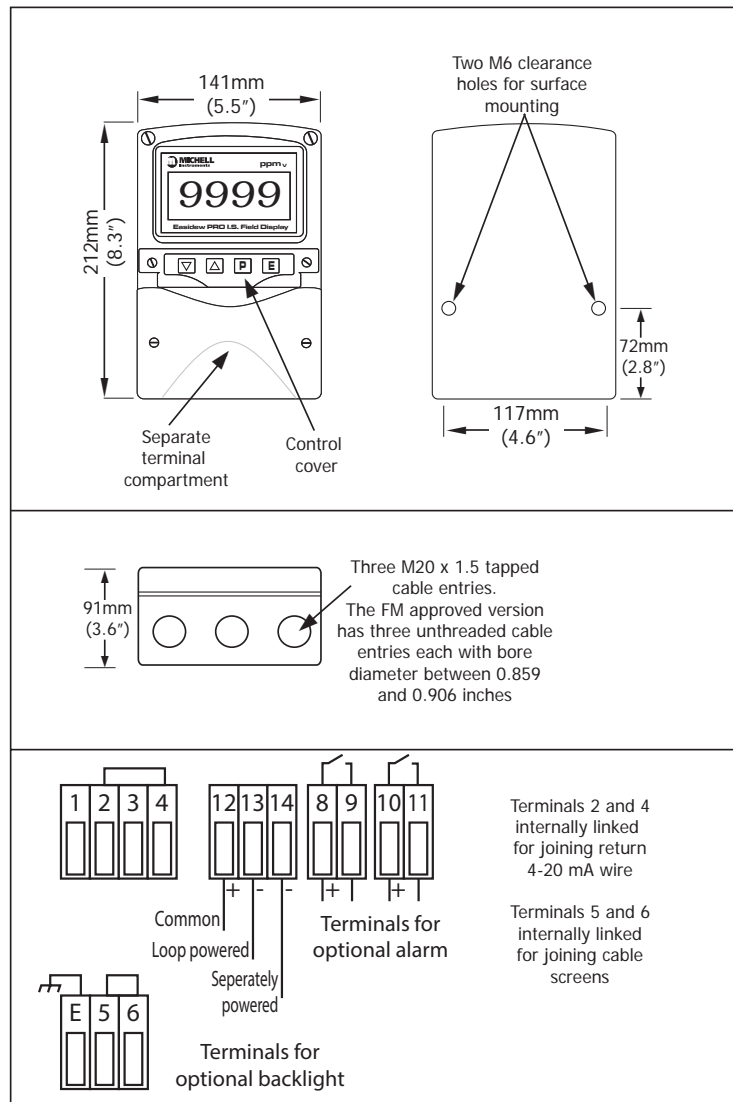

Figure 6 *Dimensions & Terminal Connections*
- d. Connect the field wiring to the terminals as shown in *Figure 6*.